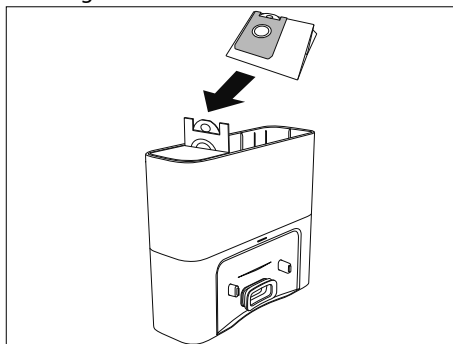

Fig. 25 – Replacing the dust bag
- ▶ Insert a new dust bag into the holder in the chamber as shown (see Fig. 25).